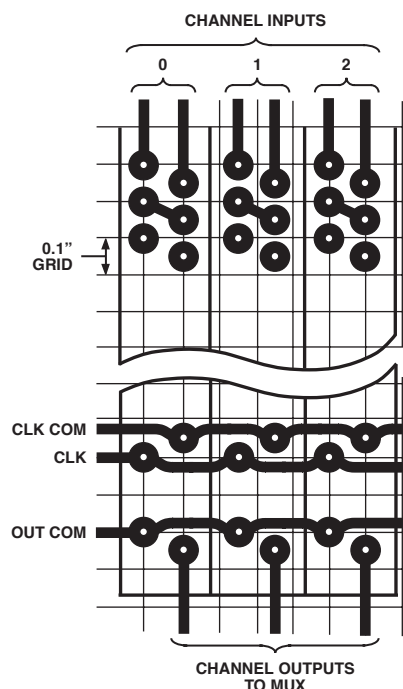
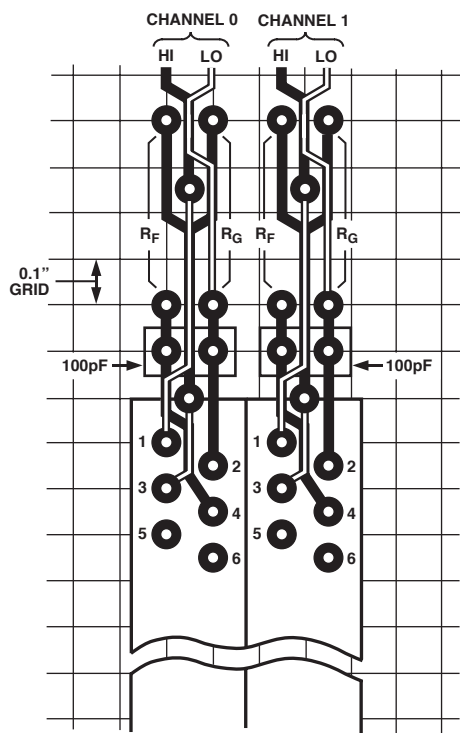

Figure 16a.
Figure 16b.
**PCB Layout for Multichannel Applications.** The pinout of the AD204Y has been designed to make very dense packing possible in multichannel applications. Figure 16a shows the recommended printed circuit board (PCB) layout for the simple voltage-follower connection. When gain-setting resistors are present, 0.25" channel centers can still be achieved, as shown in Figure 16b.